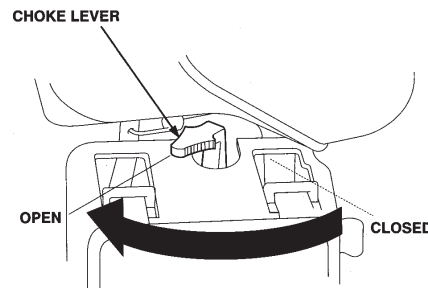

Figure 15. Choke Lever (Open)
8. If the engine has started, slowly return the choke lever (Figure 15) to the **OPEN** position. If the engine has not started repeat steps 1 through 6.